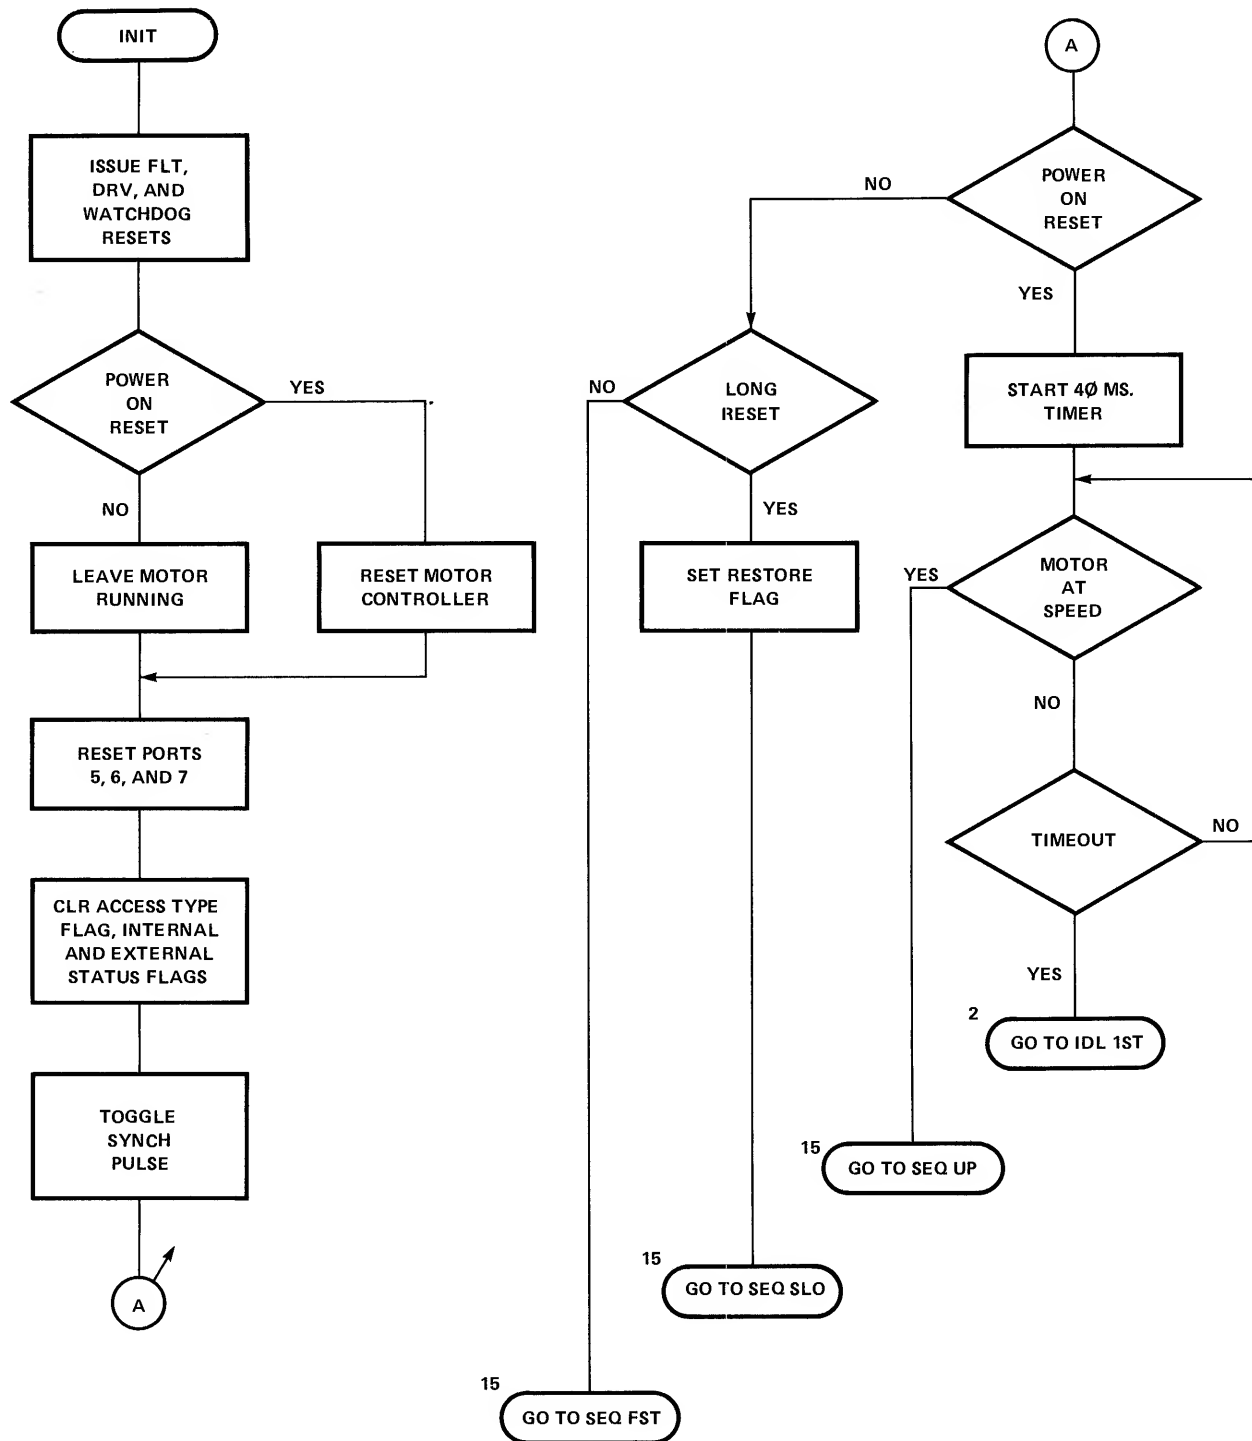
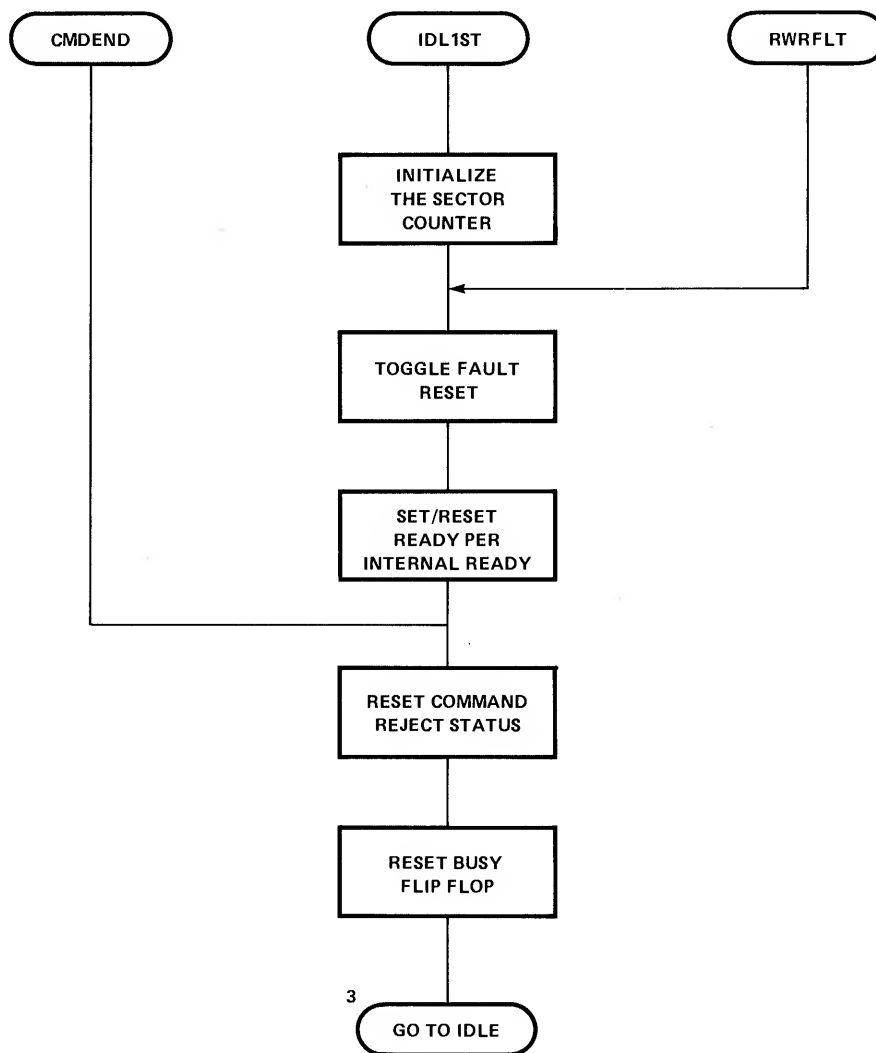
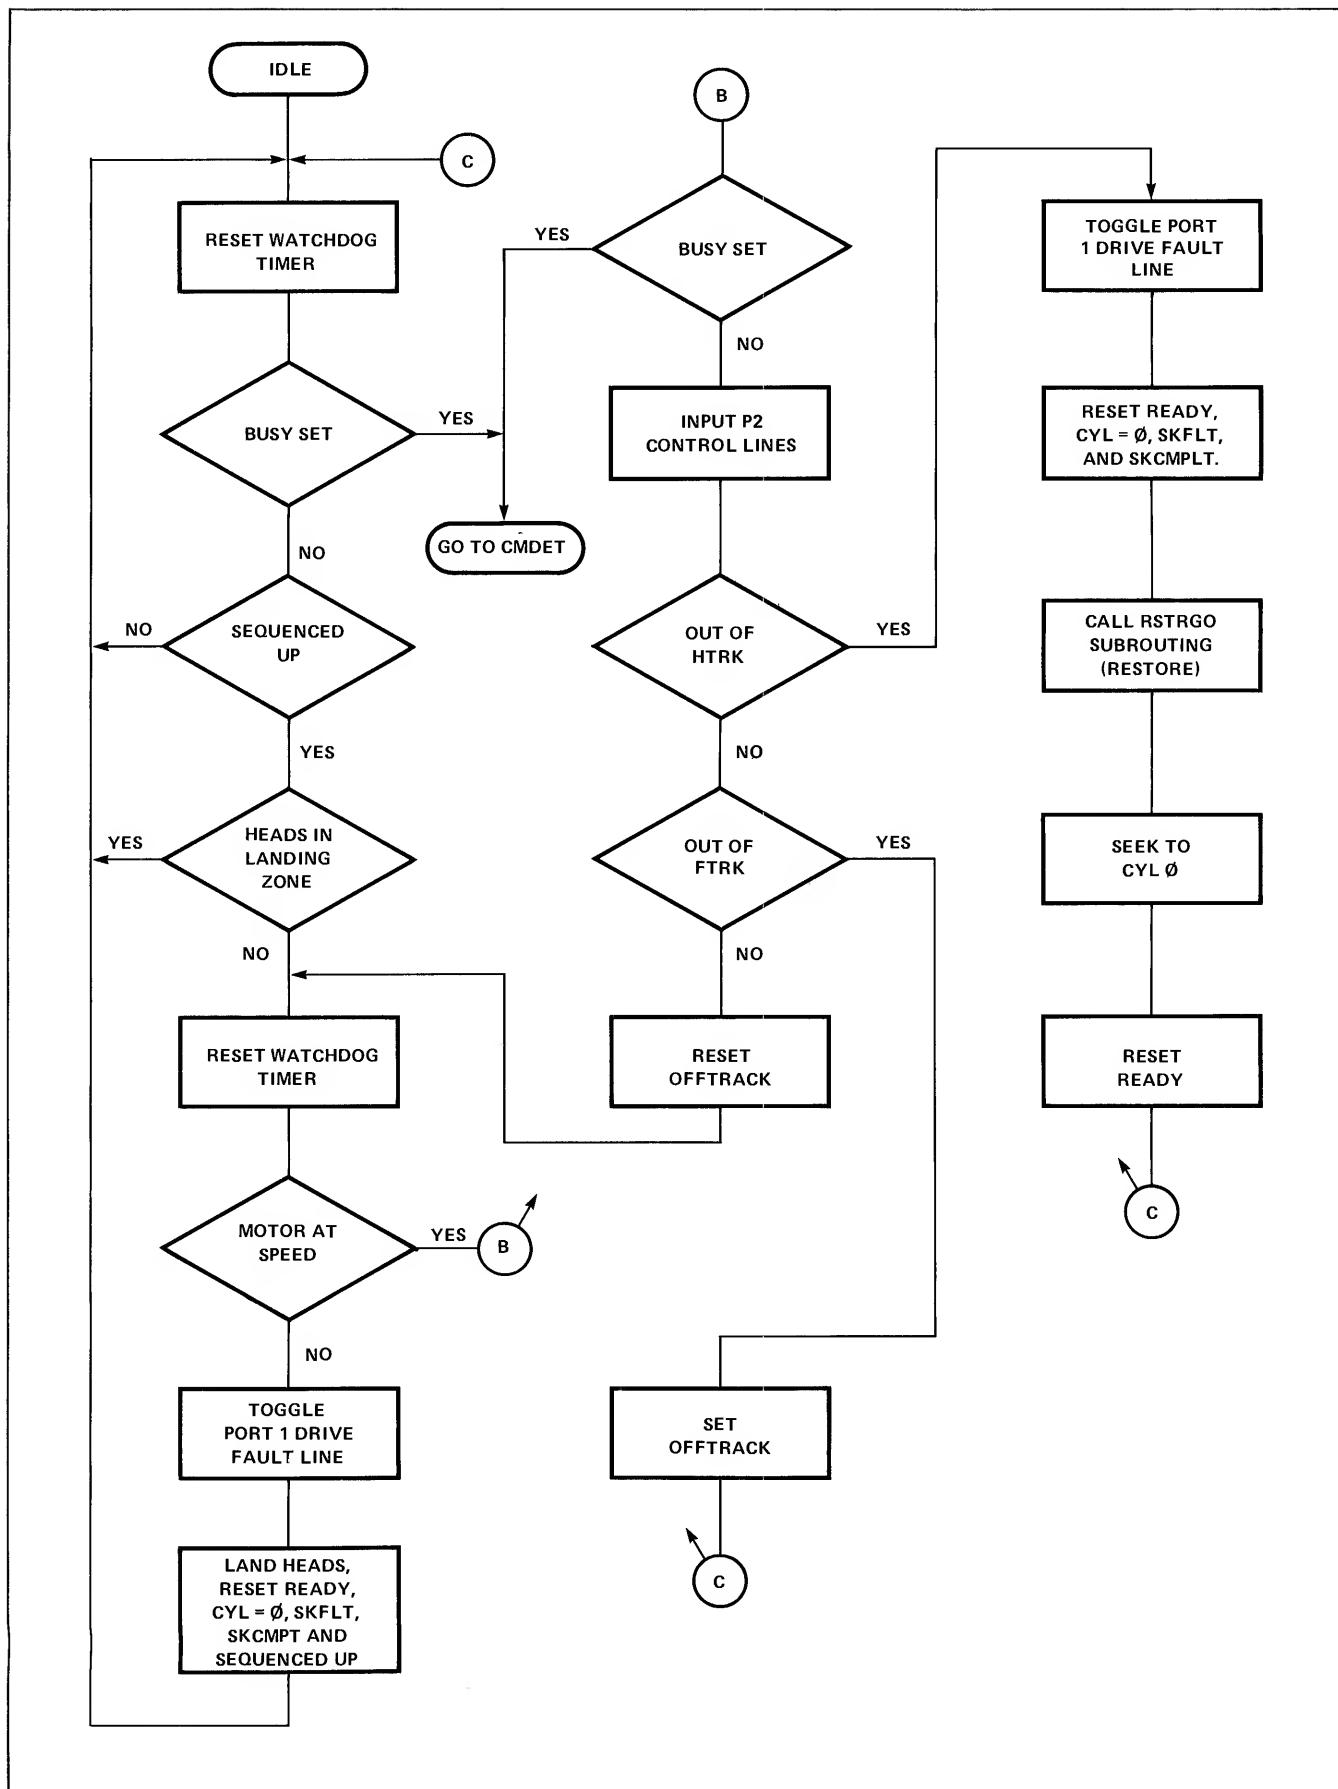

Figure 3-8. Initialization Flow Chart
Figure 3-9. First Idle Flow Chart
Figure 3-10. Idle Flow Chart
3.16 Microprocessor Flow Charts. This section contains the flow charts that give details on the microprocessor controlled sequences used in the disc drive. When power is initially applied to the main PCB, the INIT (Figure 3-8) routine is automatically executed. The microprocessor then enters the IDLE state (Figure 3-9), where it waits for a command, as shown in the IDLE (Figure 3-10) flow chart.